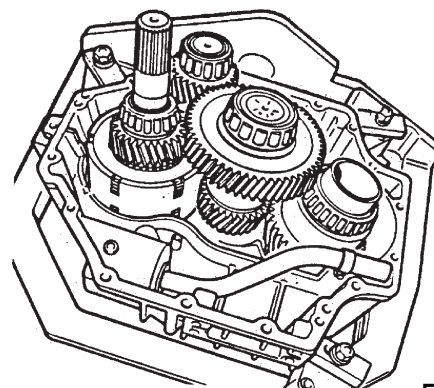

FIG. 5-7b
- d) Remove gears from the housing (Fig. 5-7b)